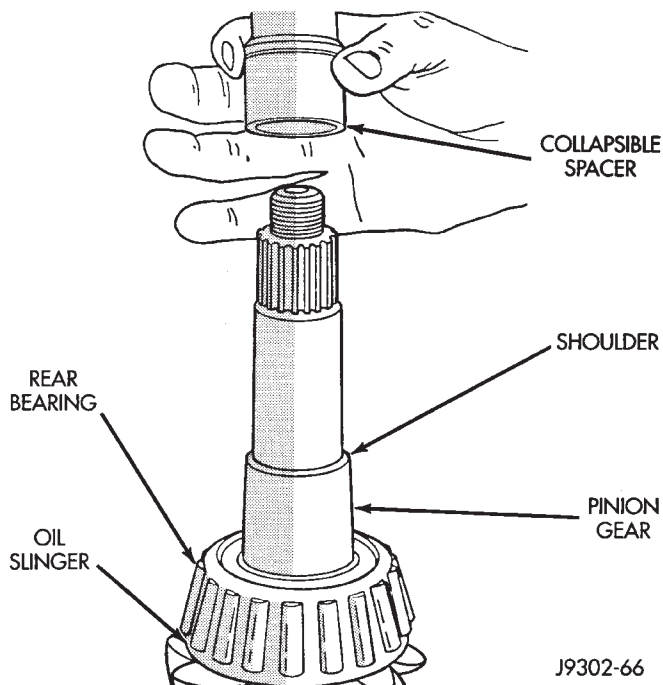

Fig. 34 Collapsible Preload Spacer
(6) Install a new collapsible preload spacer on pinion shaft and install pinion gear in housing (Fig. 34).